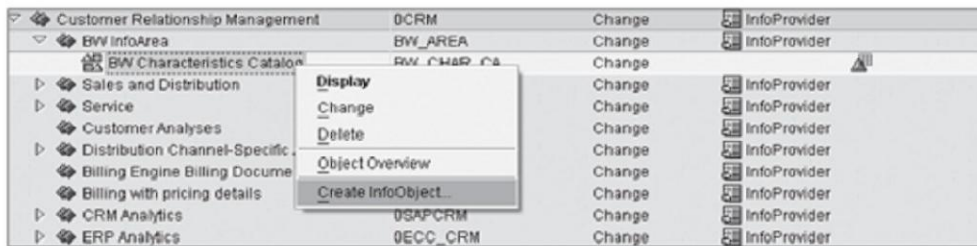
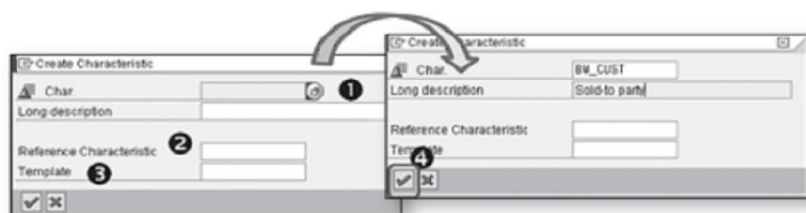

Figure 3.10 Create InfoObject: Context Menu
Figure 3.11 Creating Characteristics InfoObject
3. Within the Modeling tasks, click on InfoObjects. A tree structure appears on the right of the screen. Click InfoObject Catalog BW_CHAR_CA, and select Create InfoObject from the context menu (Figure 3.10). A screen appears prompting you to enter the name of the characteristic InfoObject you want to create (❶ of Figure 3.11).
4. Enter the name of the InfoObject ("BW_CUST") and description ("Sold-to Party"). From ❷ and ❸ of Figure 3.11, you can see that there are two additional fields: Reference Characteristic and Template. We discuss these later in this section.
To understand how this field is used, assume you have an existing InfoObject (BW_CUST, Sold-to Party) with master data. Whenever this InfoObject is used, its description is listed as "sold-to-party." As the smallest building block, the InfoObject is likely to be used in many InfoCubes (or InfoProviders); because of this, its "sold-to-party" description may not always be accurate. For example, a report for the department that collects payments would use customer data contained in the BW_CUST InfoObject, but they would not want customers to be referred to as "sold-to-party"; rather, they would want them to be referred to as "payers." To solve this problem, you can create an identical InfoObject — comprised of the same definitions and master data — with its only difference being the description ("payer" instead of "sold-to-party"). To do this, enter the existing InfoObject into the Reference Characteristic field (2 of Figure 3.11).
To understand how this field is used, assume that you want to create a new InfoObject that is similar to an existing InfoObject. Enter the name of the new InfoObject in the Char. field, and enter the name of the already-available InfoObject in the Template field (3 of Figure 3.11). Click the Continue icon (4).